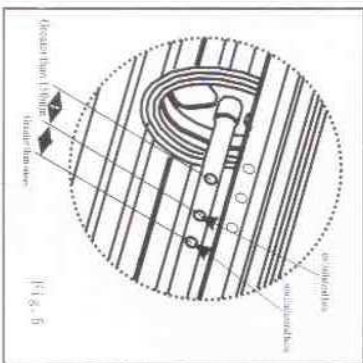

Fig. 5
3.4 At door-hinge, bore a hole from first position, on the right of 150mm play the second hole, this hole don't be typed and worn, this hole is used for piercing through before shutting the line, such as Fig. 5;
3.5 Playa M10 hole from second hole right position of 60mm at door-hinge with same method, hole this don't type and pierce through either, this hole is used for wearing and driving the electrical machinery line, such as Fig. 5;